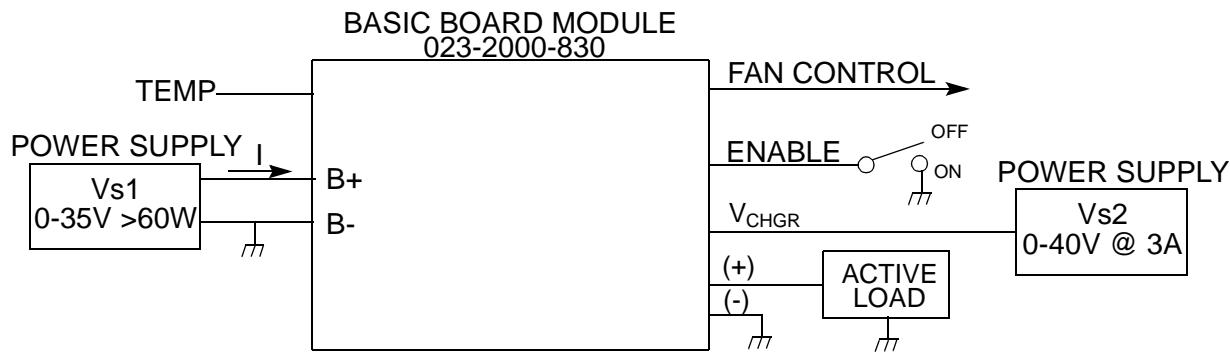

Figure 7-14 BATTERY REVERT TEST SETUP
3. Connect 023-2000-830 Battery Back-Up as shown in Figure 7-14.
1. Connect the circuit as shown in Figure 7-14.